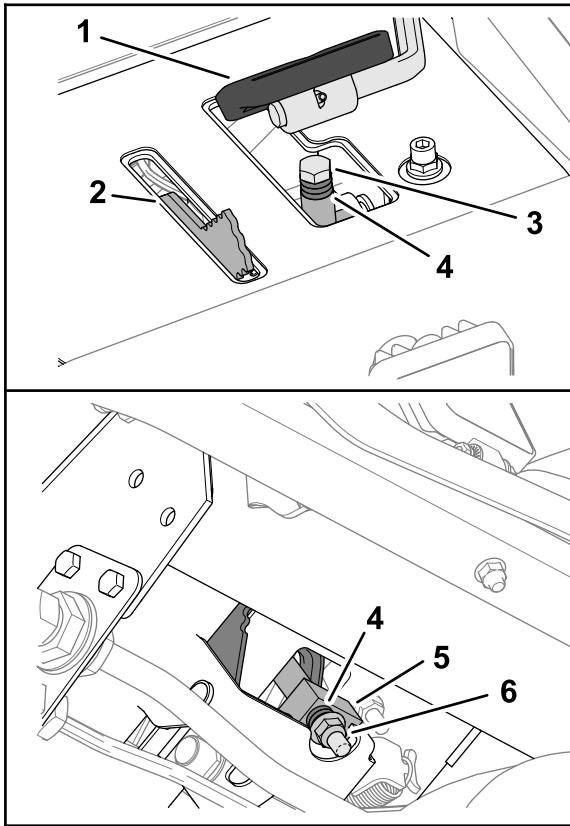

Figure 137
3. Below the traction pedal, remove the stop bolt and flange locknut that secure the spacers to the mow-stop block (Figure 137).